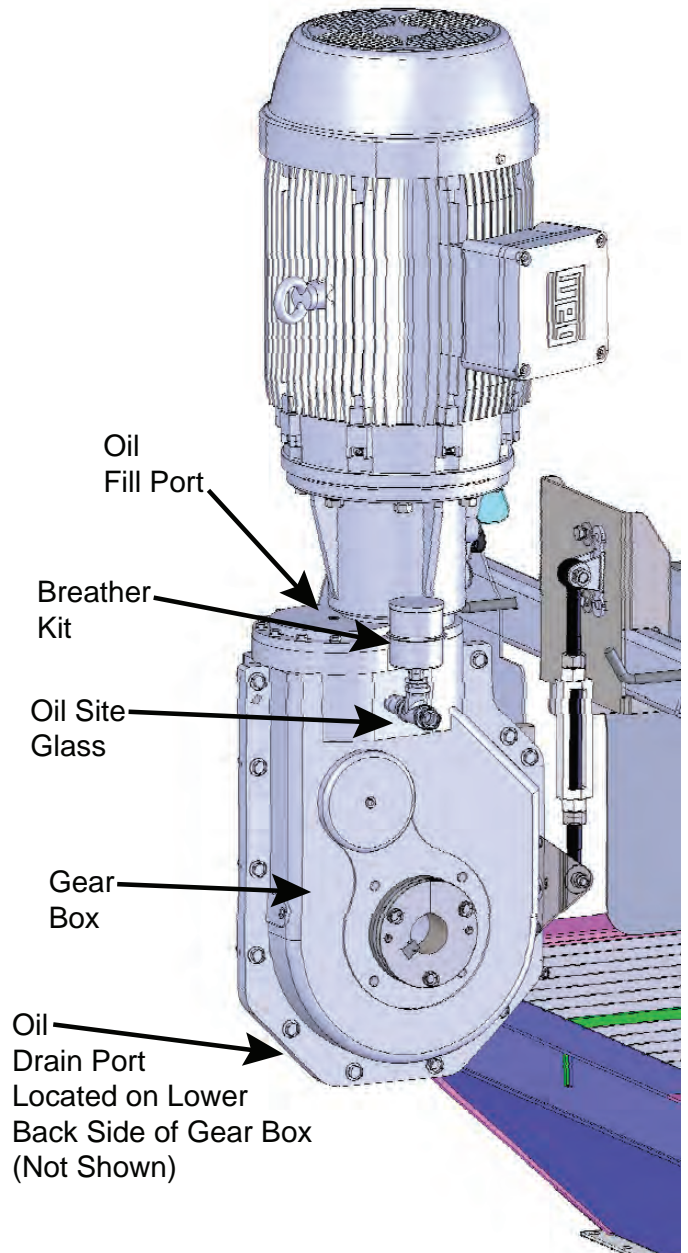

Figure 6-6 Gearbox Oil Level
1. Remove the Gearbox Fill Port Plug. See Figure 6-6.
2. Fill the Gearbox with SHC630 synthetic oil until the oil level shows in the site glass. See Figure 6-6.
3. Re-Install the Gearbox Fill Port Plug and firmly tighten in place. See Figure 6-6.
1. Remove the Gearbox Drain Port Plug. See Figures 6-6.
3. Re-Install the Gearbox Drain Port Plug and firmly tighten in place. See Figure 6-6.
4. Fill the Gearbox with SHC630 synthetic oil per the instructions above to add oil to the gearbox. See Figures 6-6.